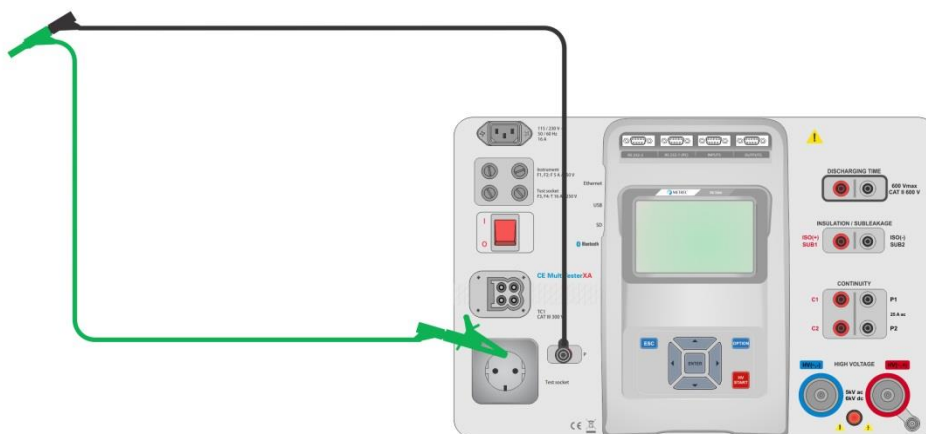

Figure 6.12: Shorted test leads
- Connect test leads to the instrument and short the test leads together, see *Figure 6.12*.